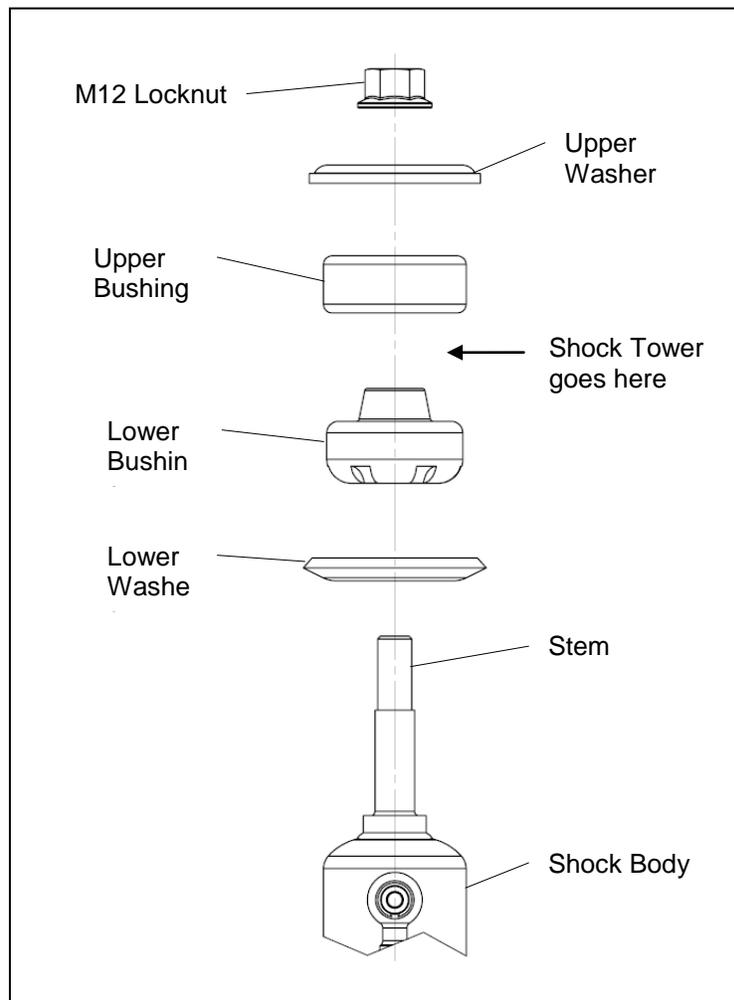

Figure 2. Shock Mount Assembly
- F. Install the complete shock/reservoir assemblies on the vehicle using the provided mount bushings and hardware (refer to Figure 2 for assembly order).